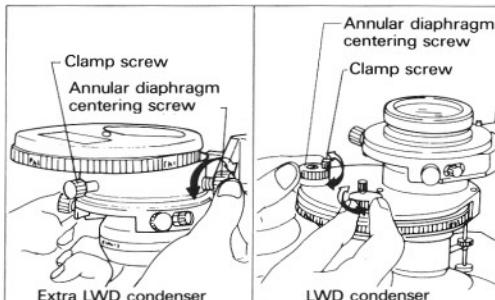

Fig. 30
- 5) At this time, if the phase-contrast ring in the objective is seen not exactly overlapped on the condenser annular diaphragm image, manipulate the annular diaphragm centering screws, after releasing the clamp screw, as shown in Fig. 30.